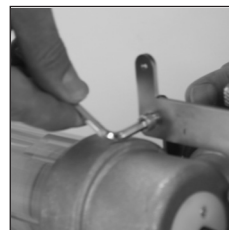

Fig. 4
- Release the assembly bracket and remove it (see Fig. 4).